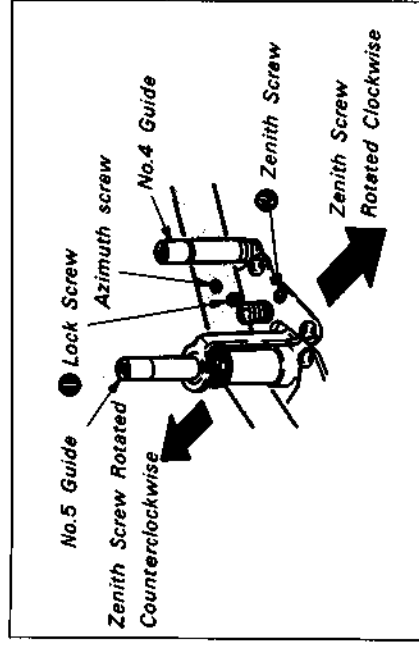

Fig. 7-73.
- 1) Playback the alignment tape (WR5-1C) for tracking. Rotate No.4 guide counterclockwise and No.5 guide clockwise in order to make the tape running on the exit side free. (See Fig. 7-73.)
- iii) Rotate the lock screw ● clockwise to tighten. (See Fig. 7-73.)